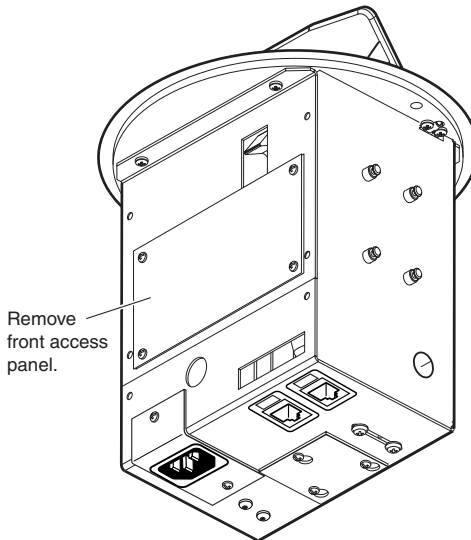

Figure 26. Front Access Panel Removal (HSA 222 Models)
7. **(HSA 222 models only)** Remove the four Phillips head screws from the front access panel (see figure 26). Retain the screws. Lift the panel away from the enclosure.